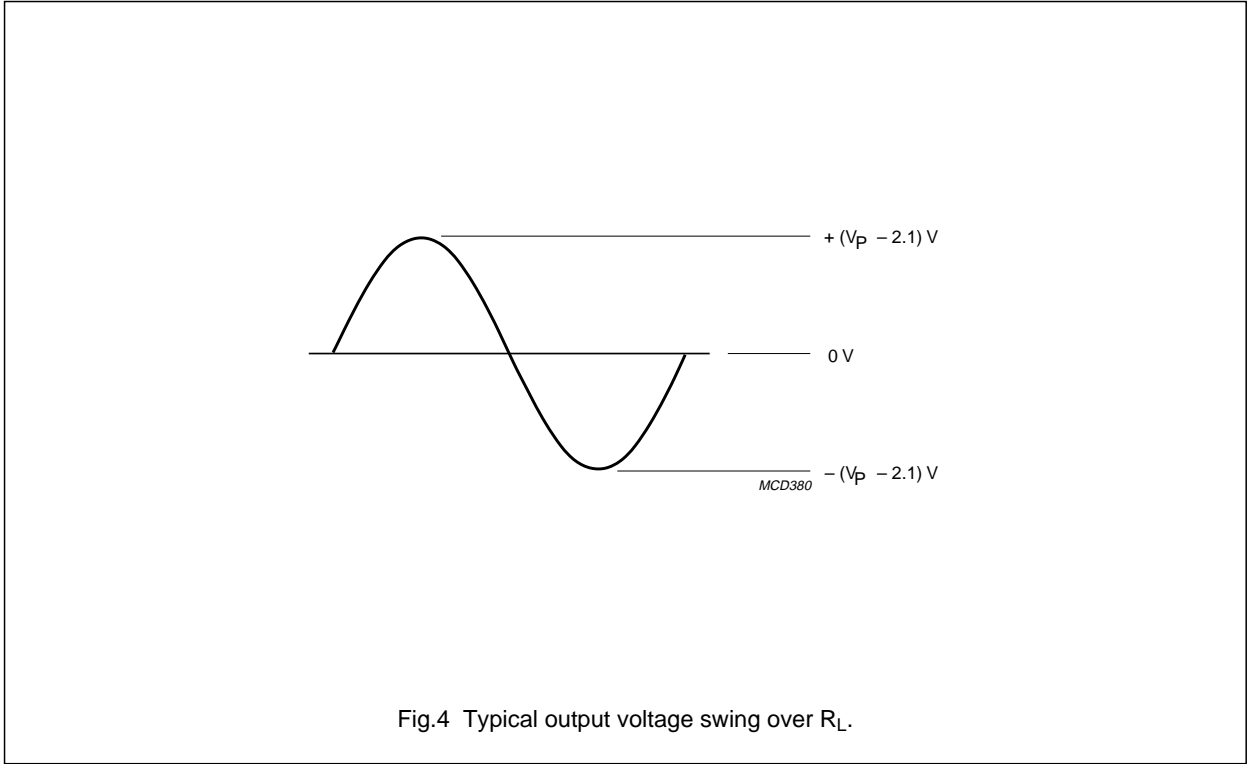

Fig.4 Typical output voltage swing over R_L .
2. The output voltage swing is typically limited to $2 \times (V_P - 2.1\text{ V})$ (see Fig.4).